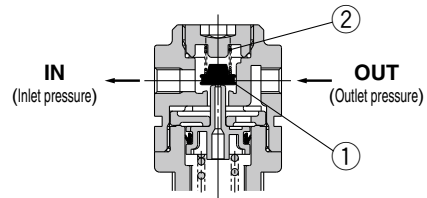

Figure 2
When the inlet pressure is shut off and exhausted, any inlet pressure applied to the valve ① will be lost. The force for seating the valve ① is the valve spring force ② only. When the valve ① is opened using the outlet force, the outlet pressure will be exhausted at the inlet side (Figure 2). When the set pressure is 0.15 MPa or less, the valve ① may not open due to the valve spring ② force.
When the inlet pressure is shut off and released, the check valve ② opens and the pressure in the diaphragm chamber ① is released into the inlet side (Figure 2). This lowers the pressure in the diaphragm chamber ① and the force generated by the spring ③ lifts the diaphragm. The valve ④ opens through the stem, and the outlet pressure is released to the inlet side (Figure 2).